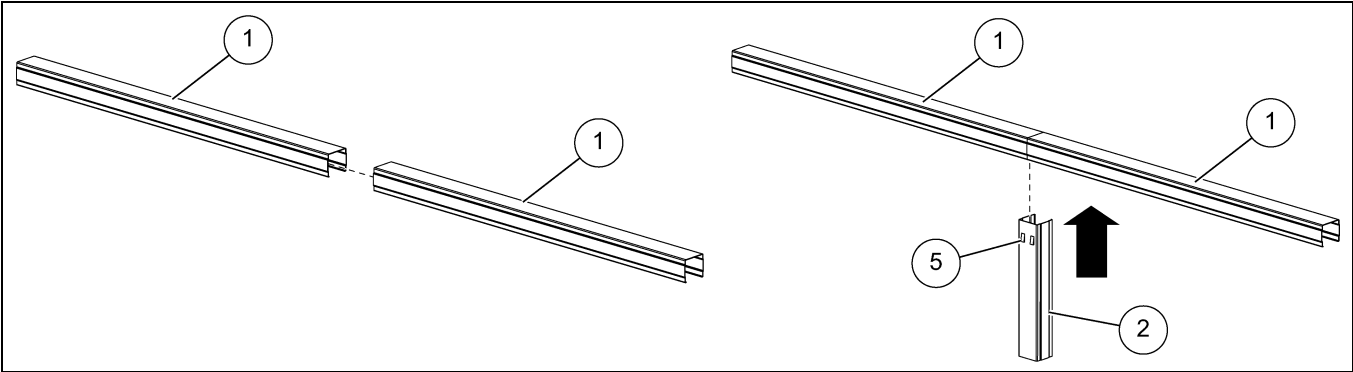

Figure 4F Installing the Monorail Leg
1. Insert the monorail leg (2) vertically at the joint between the ends of the monorails (1), centering the leg (2) on the splice as shown in *Figure 4F*.